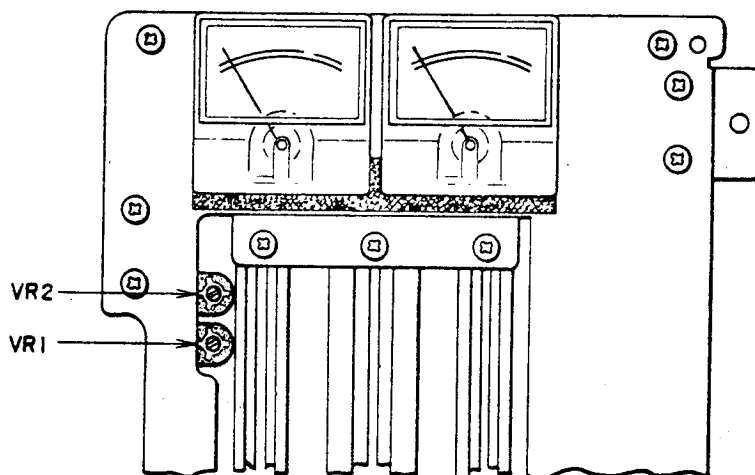

Fig. 17
4. RECORDING BIAS VOLTAGE ADJUSTMENT (See Figs. 17, 18) (Frequency Response Adjustment)
Playback the 1,000 Hz. and 10,000 Hz. signals recorded in Frequency Response Measuring Method procedure and adjust Bias Adjustment Volume VR-1, VR-2 (500 KB) as shown in Figs. 17 and 18 so that the output level of these two frequencies are equal.